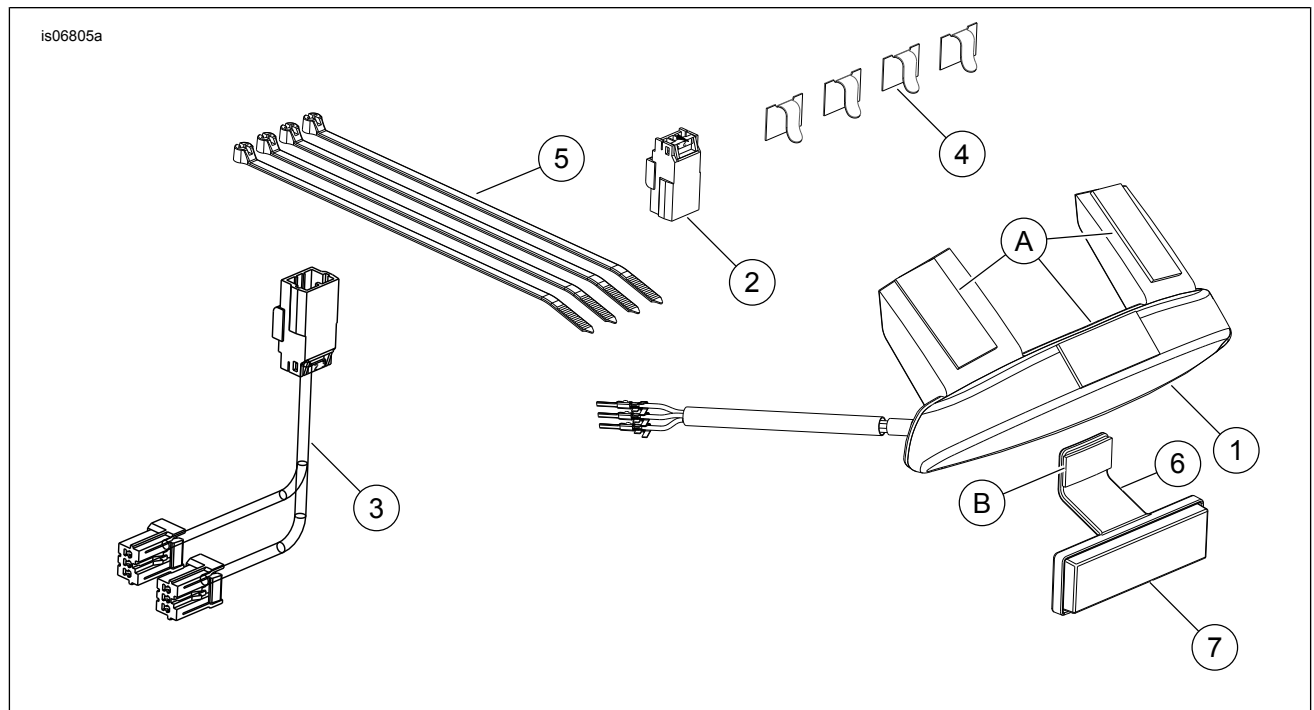

Figure 3. Service Parts: Fender Edge Light Kit
See Figure 3 and Table 1.
5. See Figure 3. Remove the protective liner (A) from the three adhesive pads on the fender edge light (1).
7. Remove the protective liner from the adhesive pad (B) of the reflector mount (6) and install the reflector to the center of the fender edge light. Press firmly in place for best adhesion.
4. See Figure 3. Insert the wires and terminals from the light assembly harness into the pin housing (2) from the kit:
6. Secure the interconnect harness in the seat pan area as necessary with cable straps (5).